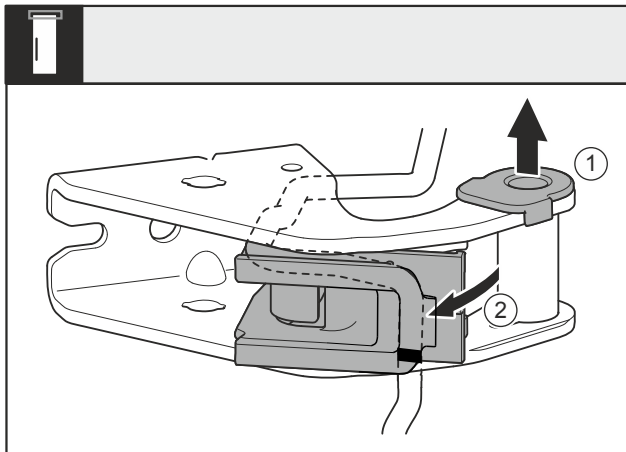

Fig. 26
- ▶ Pull the bearing bush Fig. 26 (1) out of the guide.
- ▶ Swivel the cable holder Fig. 26 (2) out.